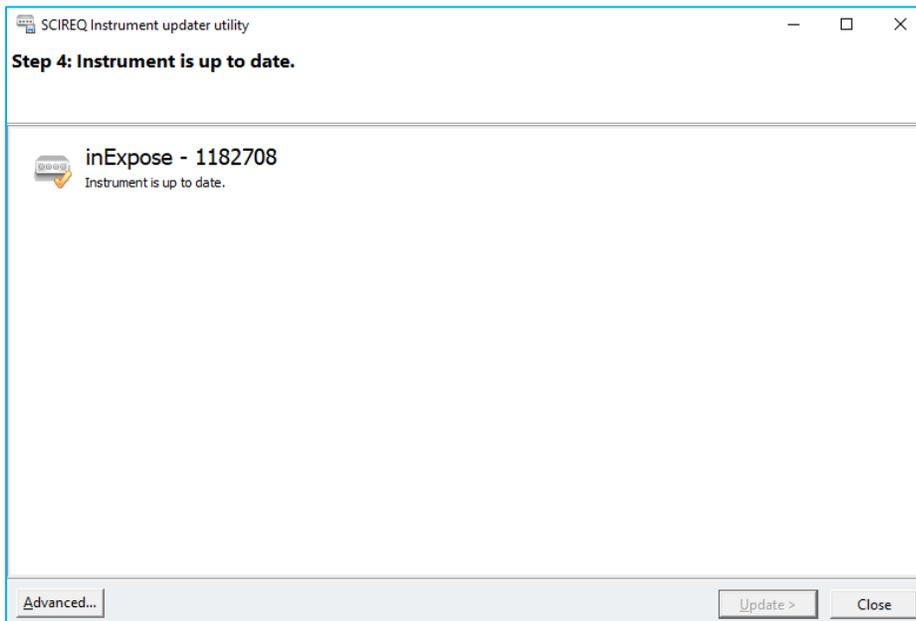

Figure 3-5. Update complete
- » Once the update is complete, the Instrument updater should confirm that the update completed successfully (Figure 3-5)